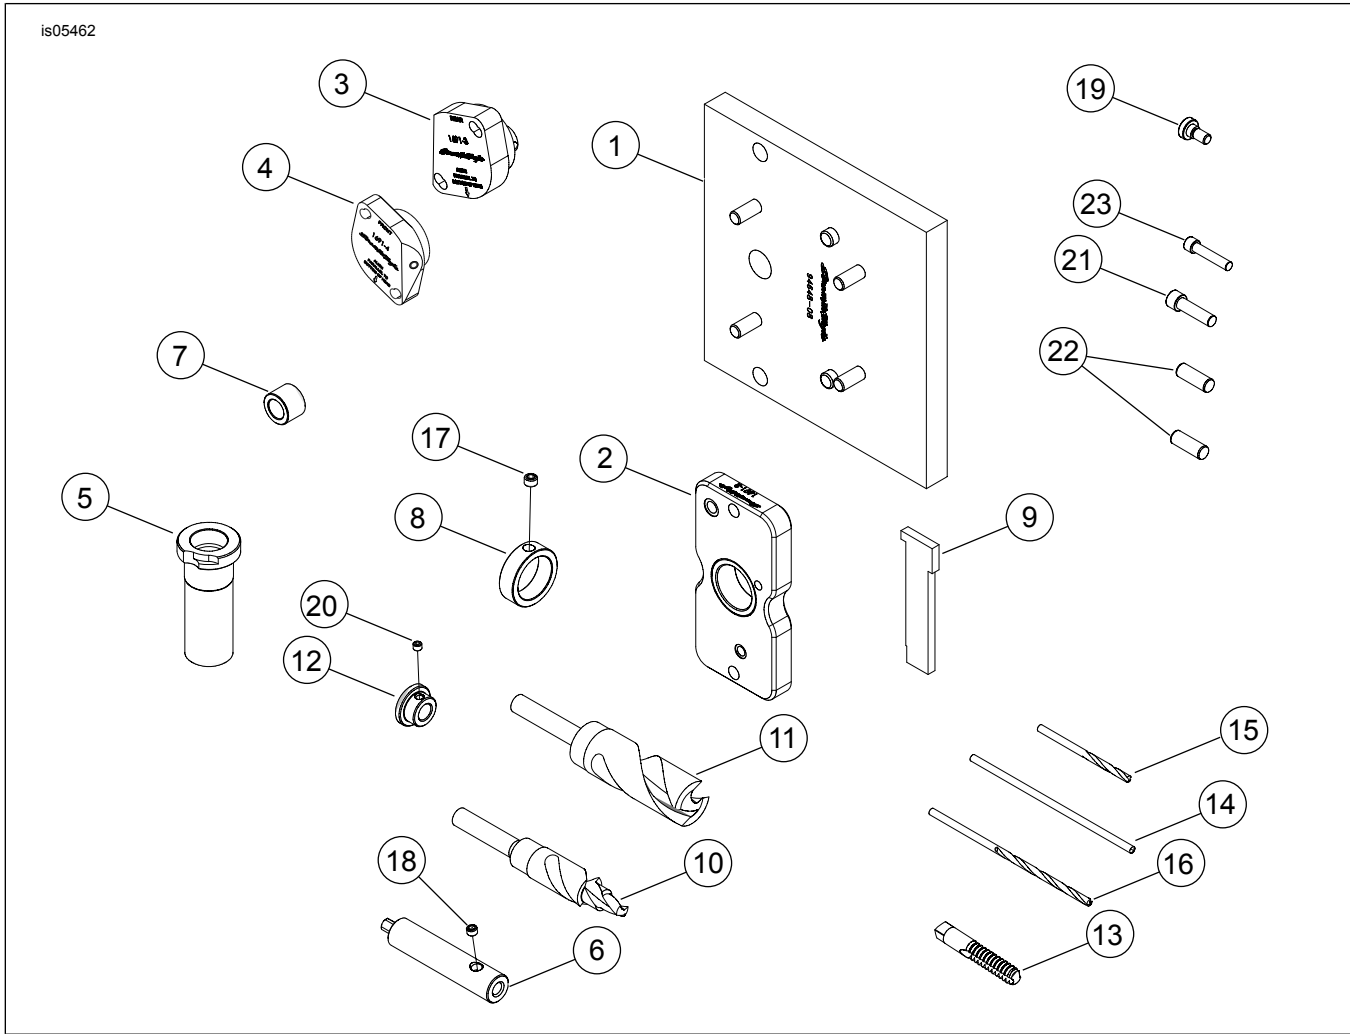

Figure 7. Service Parts Kits: Automatic Compression Release Tools
See Figure 7 and Table 1.
2. See Figure 7 and Table 1. Mount a cylinder head to the tooling plate (1).
3. Place a head bolt spacer (7) over each stock head bolt and lubricate threads and thrust faces, dowels and studs. Tighten head bolts in a crisscross pattern to 13.5 N·m (10 ft-lbs).